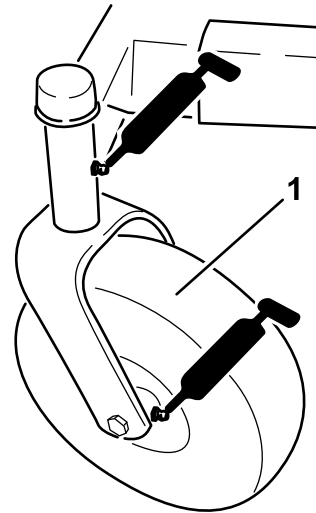
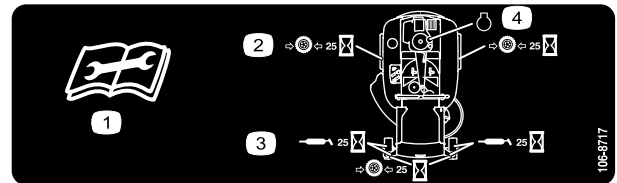

Figure 21
Figure 22
3. Clean the grease fittings (Figure 21 and Figure 22) with a rag. Make sure to scrape any paint off of the front of the fitting(s).